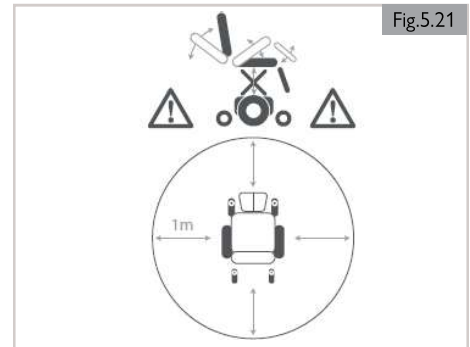

Fig.5.21
2. Always ensure that the leg rests or footplates do not come into contact with the casters before driving the wheelchair: (Fig. 5.21)